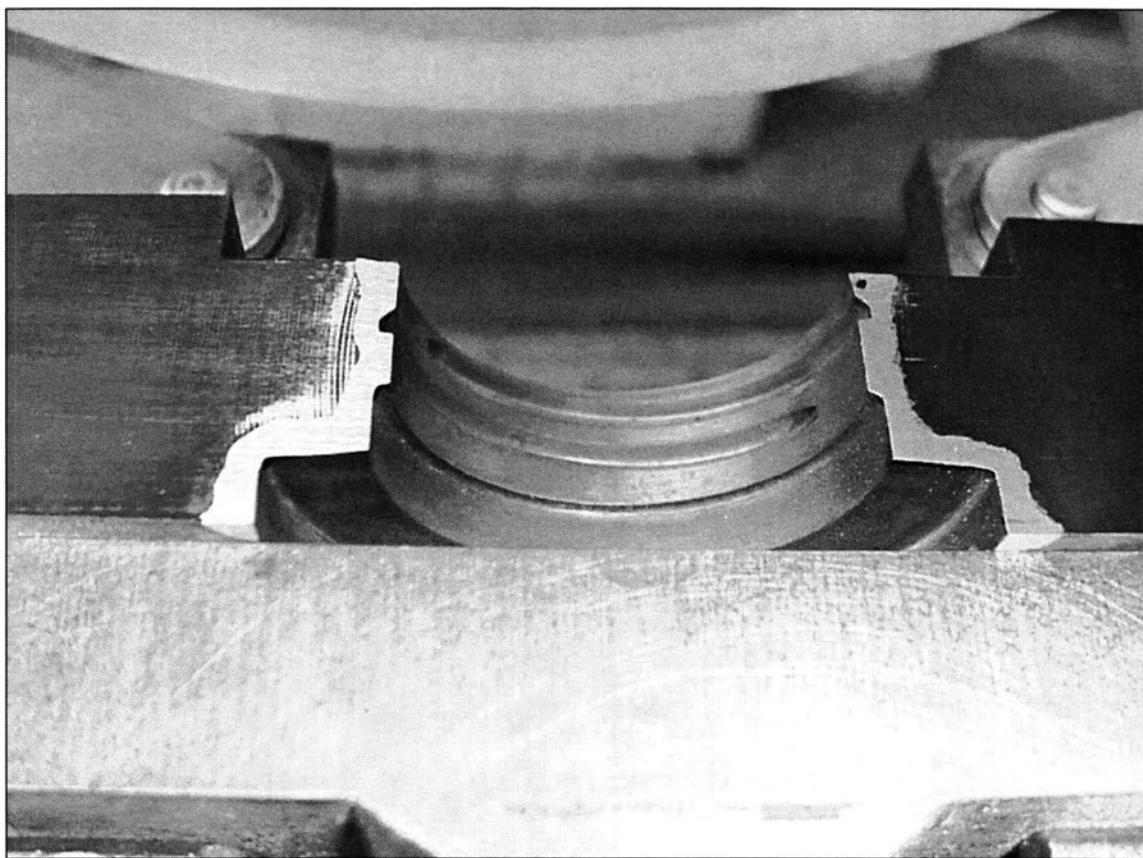

FIGURE 13-11 It's good practice to leave a little weld showing when blending weld on mold parts.
33. *Leave a little weld showing when blending weld on a parting line or molding surface. (See Fig. 13-11)*